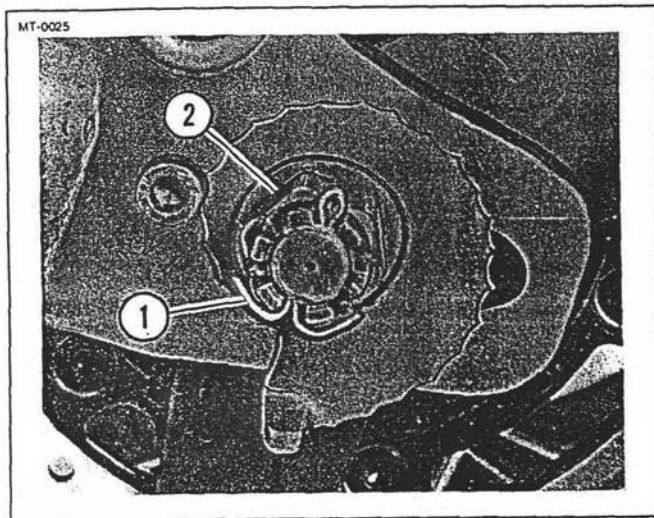

Figure 5-26. Rear Axle Nut and Cotter Pin
1. See Figure 5-26. Using long-nose pliers, remove and discard cotter pin (1).
2. Using a 24 mm box wrench, loosen axle nut (2).
9. See Figure 5-26. Using a 24 mm socket and a torque wrench, tighten axle nut (2) to 102 N-m (75 ft-lb).
10. See Figure 5-26. Using a 24 mm socket and a socket wrench handle, tighten axle nut (2) only far enough to align hole in axle with slots in nut.
11. Using long-nose pliers, install a new cotter pin (1).